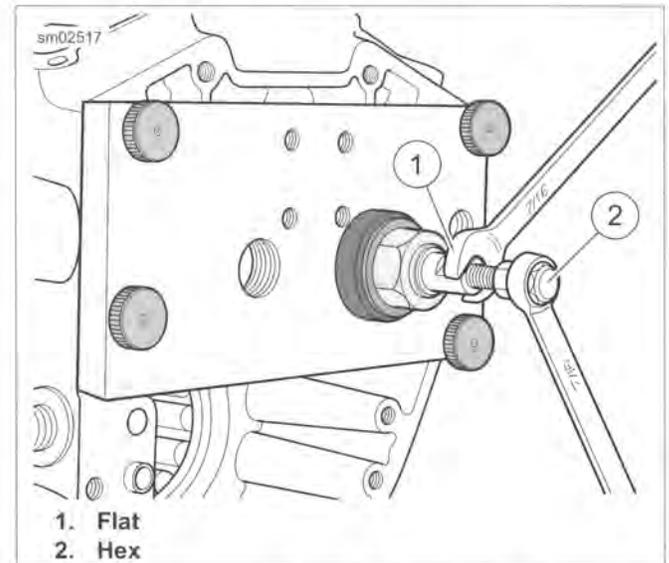

Figure 3-98. Expanding Collet by Turning Hex Clockwise
11. See Figure 3-98. Turn hex nut clockwise until bearing is free. If necessary, hold flat on collet to prevent rotation.